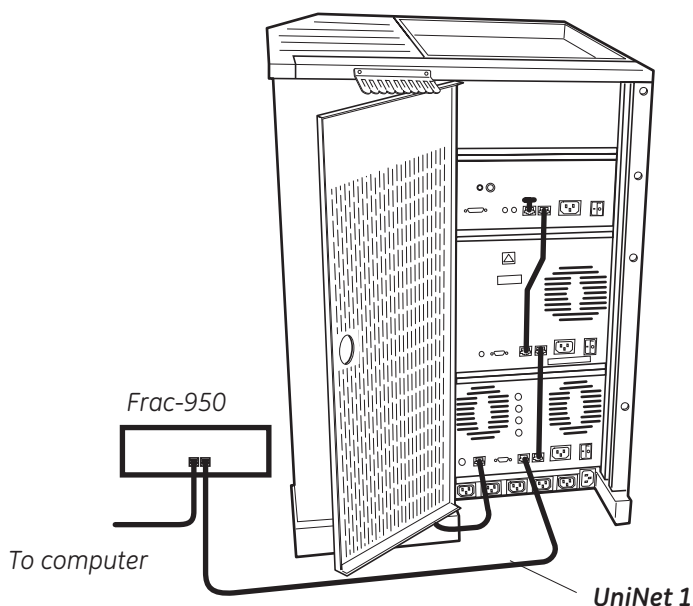

Figure 2-13. Connecting Frac-950 UniNet 1 to an ÄKTAexplorer system.
See Figure 2-13 to locate the connectors on the rear panel of Frac-950.
To locate the DropSync connector, see Figure 2-13.
- 2 Run a new UniNet 1 cable (included) from the ÄKTA design system to one of the UniNet 1 connectors in Frac-950. The example in Figure 2-13. shows connection to an ÄKTAexplorer system.
To locate the Mains connector in Frac-950, see Figure 2-13.